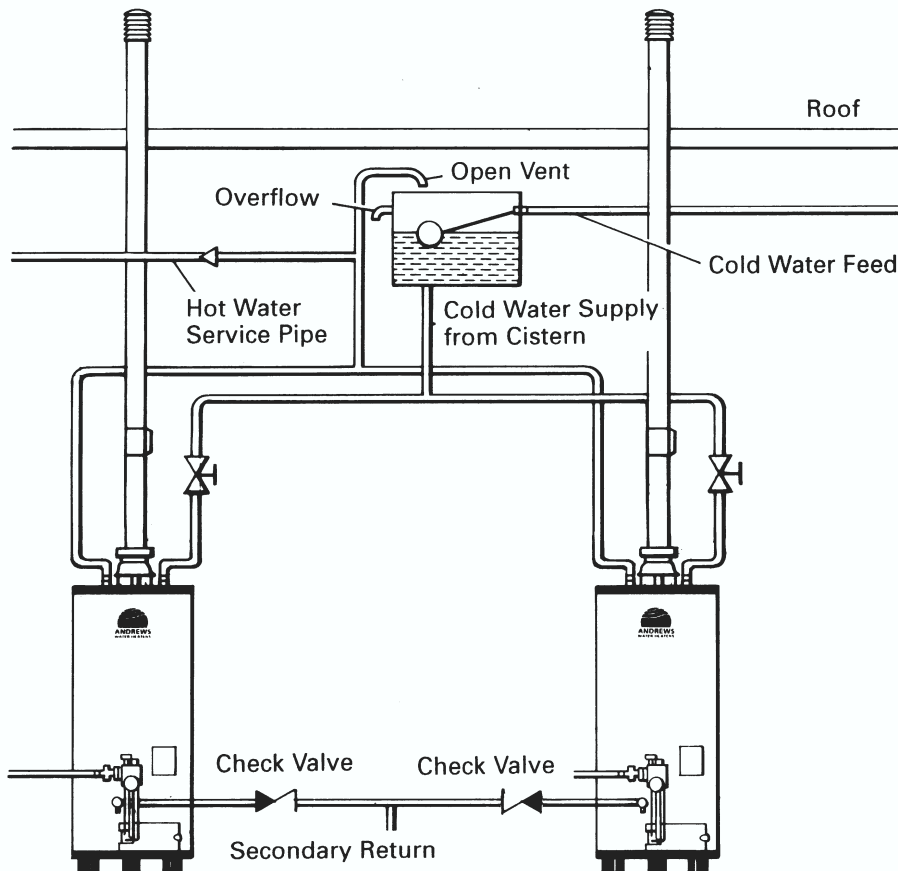

**Fig 7.**
**Typical water service layout for Standard Range multiple heater vented system is shown in Fig. 7.**